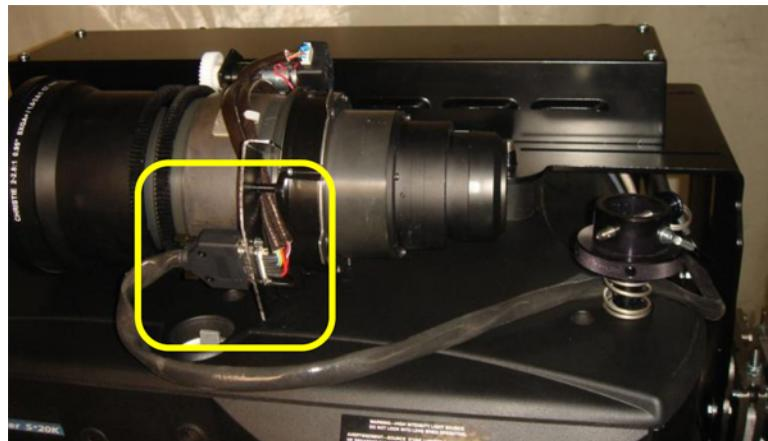

Figure 3-32 Lens Connection to Zoom and Focus Cable
1. Connect the lens connector to the external zoom and focus cable from the Head Box. (**Figure 3-32**)